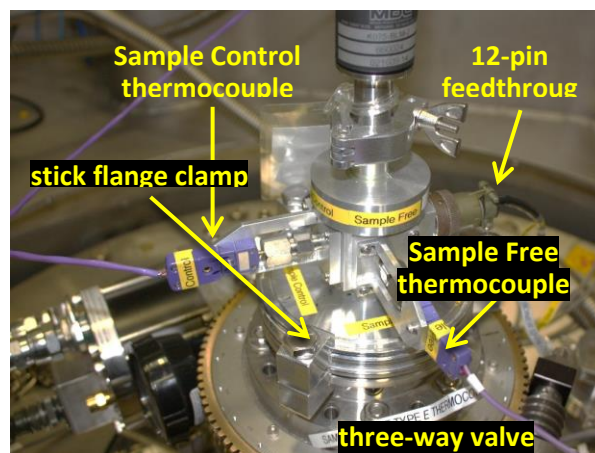

Figure 4. Sample stick connections
- h. Unplug the 12-pin connector from the stick (Figure 4).
- j. Start flowing He, by turning the three-way valve to point to the gas line on the right (Figure 4).